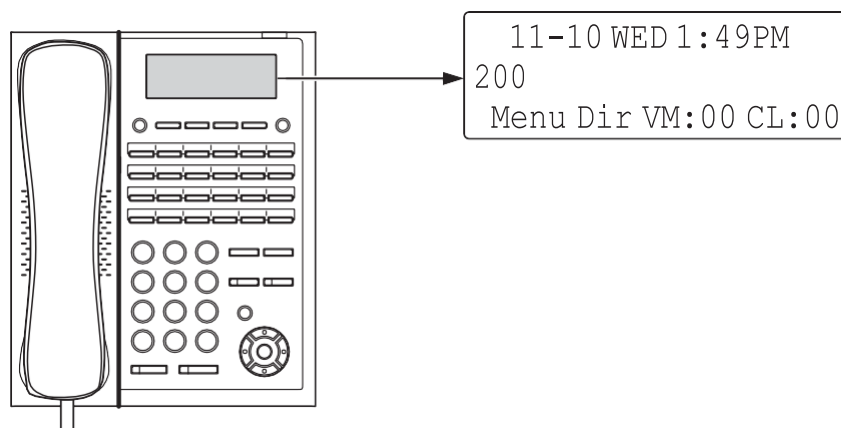

Figure 3-4 Display Indication (Idle) (12TXH/24TXH-B1)
3. When the system has completed reloading the software, the RUN LED is flashing green on the CPU board, and the connected Multiline Telephone's display will show the Time & Date and Extension Number as Figure 3-4 Display Indication \(Idle\).